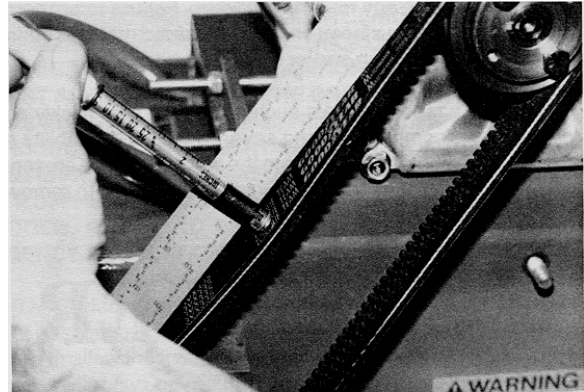

FIGURE 32
4) Check belt tension using the spring scale or belt tension tool midway between the engine and driveshaft pulleys. Belt deflection should measure approximately 3/16 inch at 3-7/8 to 5-1/2 lbs force. FIGURE 32. If tension is within specifications, proceed to Step 4. If tension is not within specifications, refer